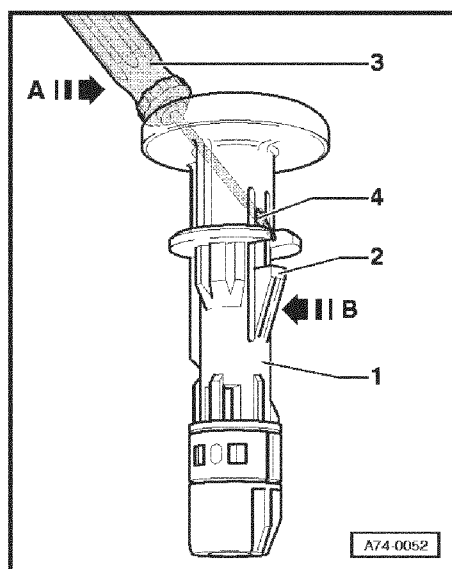

Fig.1 Removing head restraint guides
- Remove head restraint guide = > Fig. 1